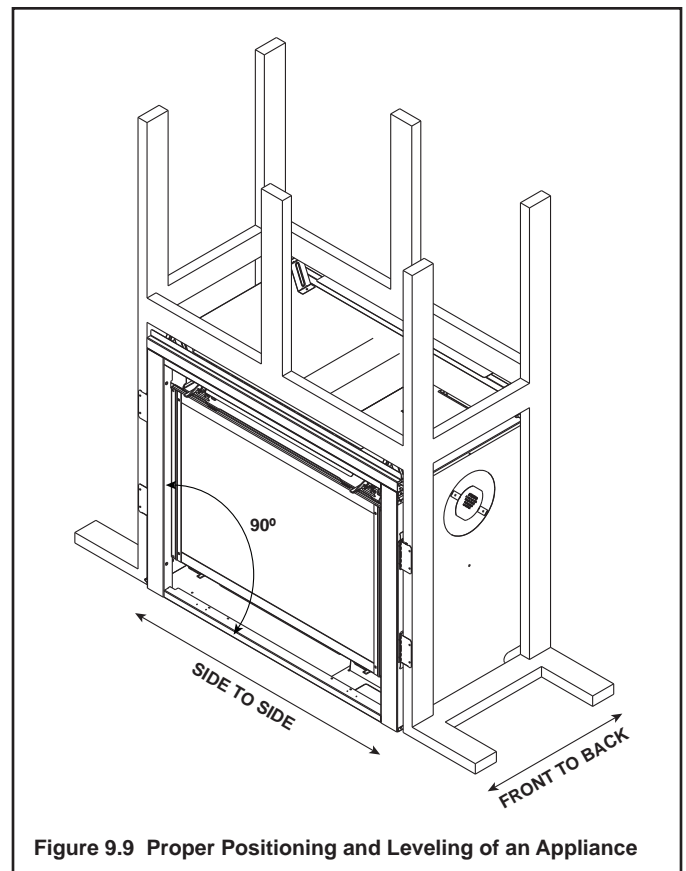

Figure 9.9 Proper Positioning and Leveling of an Appliance
6. Using a framing square, make sure that the sides of the appliance are square to the bottom as shown in Figure 9.9.